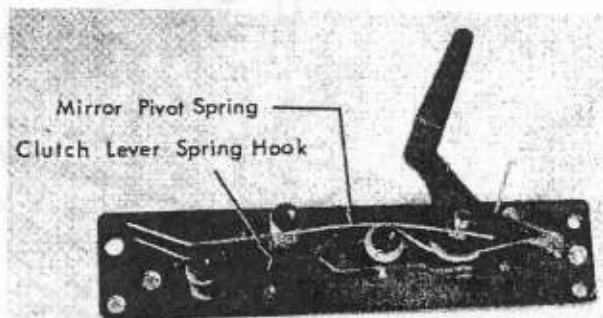

Figure 1-10A. SPRING POSITIONING
d. Place clutch shaft assembly in position; follower arm tip must be positioned beneath small cutout in fixture. Place hub (1) in position. Apply Glyptal ZV-903 to threads of screw (2) and secure hub to clutch shaft with screw.
g. Apply Glyptal to threads of screw (3) and secure post assembly in position with screw. Clutch lever assembly must lie parallel to both edges of plate.
h. Assemble clutch lever spring and two retaining rings (4) to rangefinder spacer.
i. Apply Glyptal to small diameter at top of spacer and place large diameter of spacer in loop of upper mirror pivot spring and then into position in upper plate. Openings of two retaining rings on spacer must face clutch lever assembly. Pivot spring must lie flat against upper plate and its curved end (not bent end) must be on opposite side of clutch shaft assembly collar from follower arm. Hook of clutch lever spring must hook over lever assembly as shown in figure 1-10A.
j. Apply Glyptal to threads of screw (5) and secure rangefinder spacer with this screw.
k. Assemble two retaining rings (6) to other rangefinder spacer. Apply Glyptal to small diameter at top of spacer. Apply Glyptal to threads of screw (7) and secure spacer to upper plate with this screw.
m. Place lower mirror pivot spring in position. Loop of spring must be around rangefinder spacer, between lower retaining ring and shoulder of spacer. Curved end of spring is positioned as shown in figure 1-10A. (Both upper and lower pivot spring must be on same side of clutch shaft.)
o. Place lower plate in position. Replace two washers (11) and retaining rings (12). Be sure mirror pivot springs are not caught under shoulder of either rangefinder spacer.